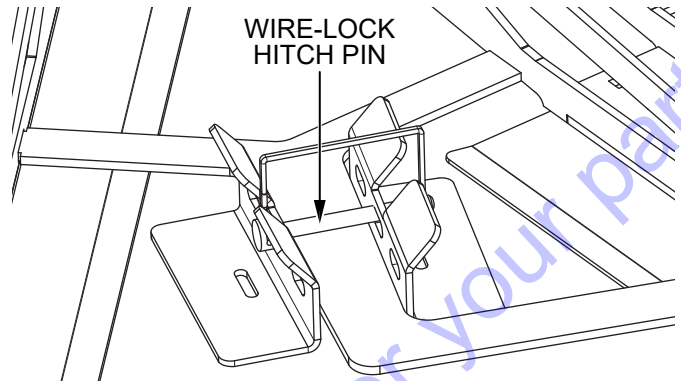

Figure 85. Lock Pin Installation
- Secure the spider drive bars to the pan drive mounts using four wire-lock hitch pins (Figure 85).